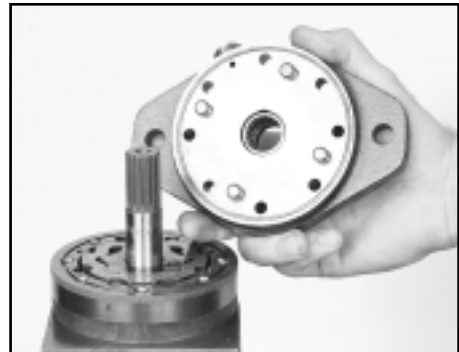

Figure D3
3. Lift front bearing housing/flange (10) by lightly tapping the flange up off the dowels with a soft hammer. Do not remove the dowel pins., SEE FIGURES D3.